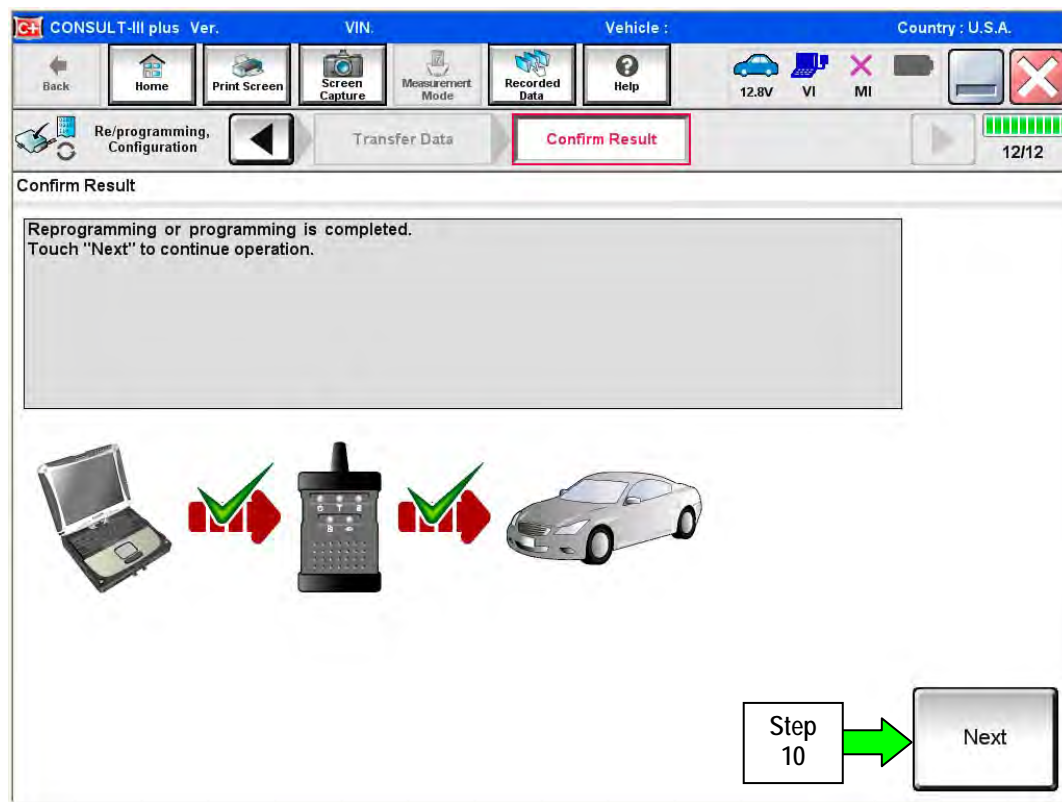

Figure 4
8. When the screen in Figure 4 displays, reprogramming is complete.
**NOTE:** If the screen in Figure 4 does not display (reprogramming does not complete), refer to the information on the next page.